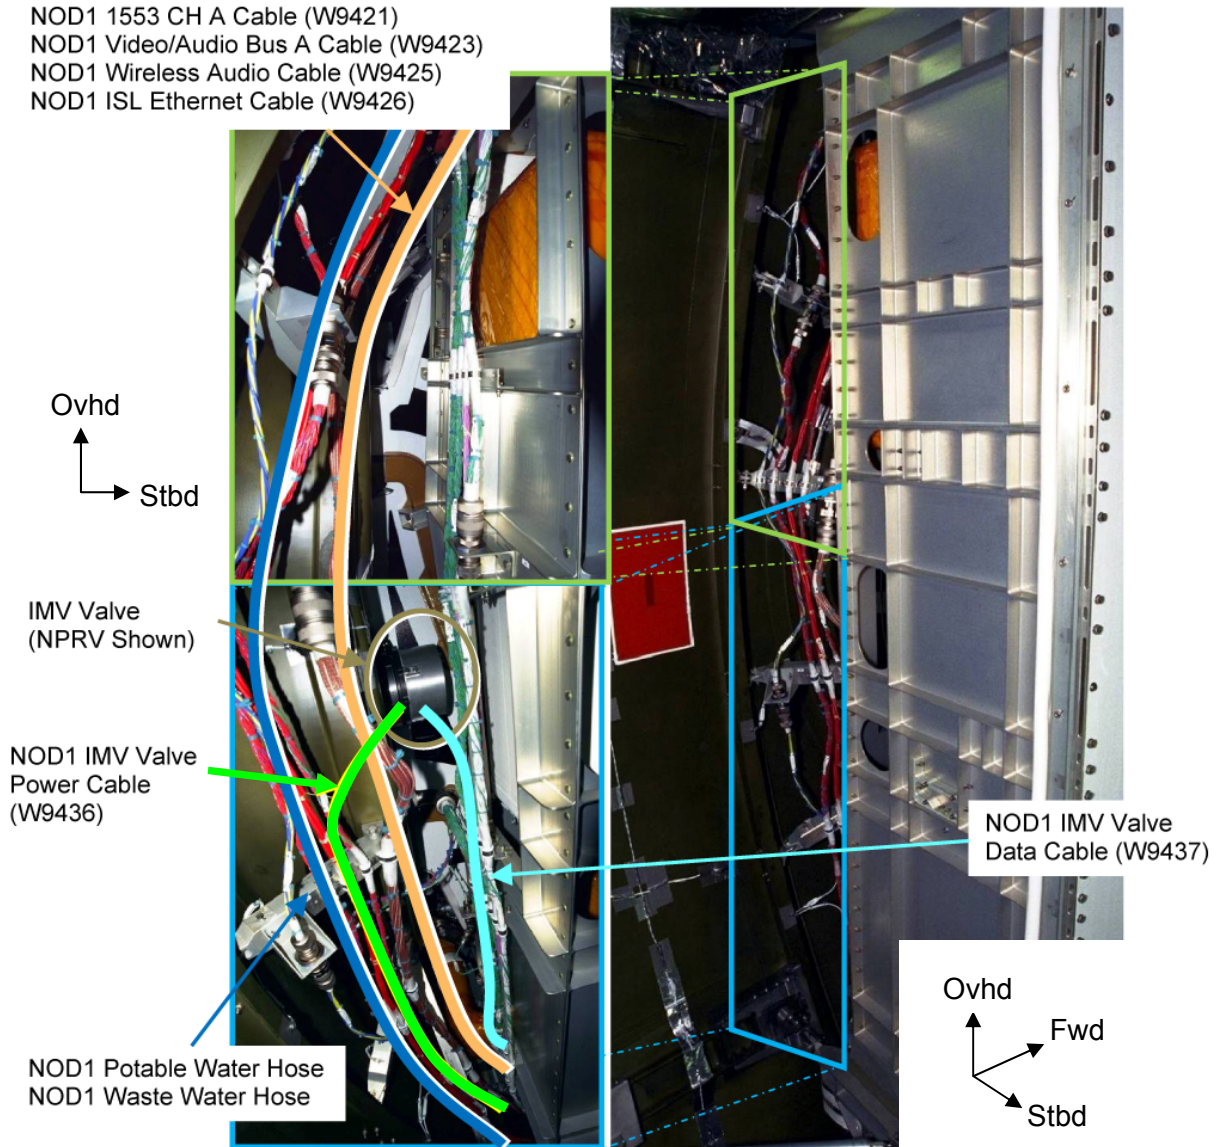

Figure 24.- Node 1 Port Midbay.
- 13.2 Route fluid hoses (two) from top to bottom of Node 1 Port Midbay; these hoses have no EMI routing constraints. Recommend routing per Figure 24, near red cables. Restrain to secondary structure, as required (Cable Ties).
- 13.6 Route bundle as shown in Figure 24, following existing W0205 Harness from top to bottom of Node 1 Port Midbay.
- 13.8 Route NOD1 IMV Valve Power Cable (W9436) from newly installed IMV Valve to bottom of Node 1 Port Midbay as shown in Figure 24.
- 13.10 Route NOD1 IMV Valve Data Cable (W9437) from newly installed IMV Valve to bottom of Node 1 Port Midbay as shown in Figure 24.